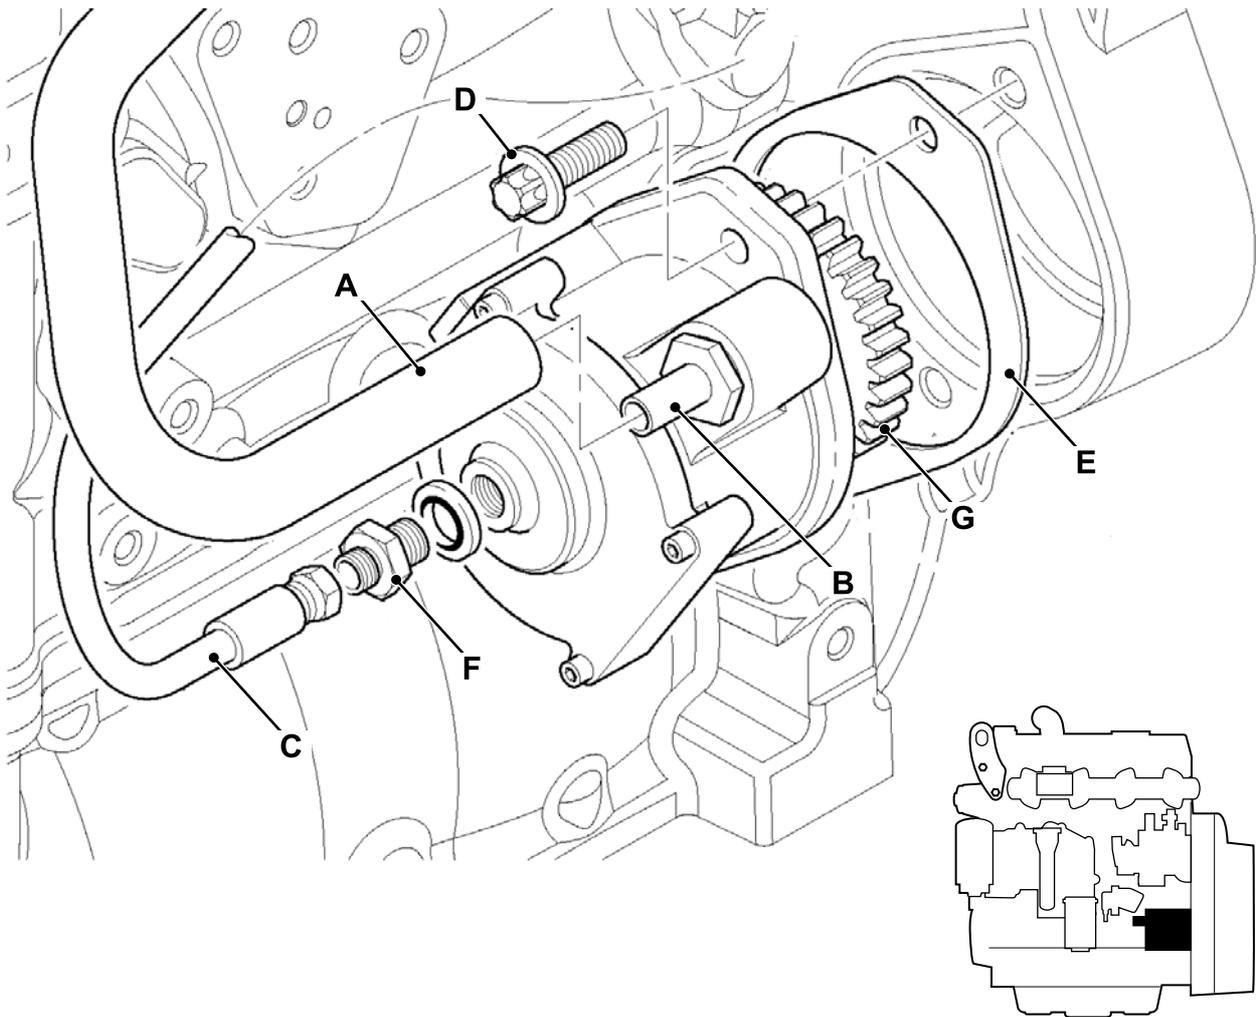

Fig 38.
- 4 → Fig 38. (G-60). Working at the LH side of the engine compartment, undo the clip and release the brake vacuum hose **A** from the pipe stub **B**. Disconnect the oil feed hose **C**. Blank off the open ends of the hoses to prevent ingress of dirt. Tie the hoses out of the way.